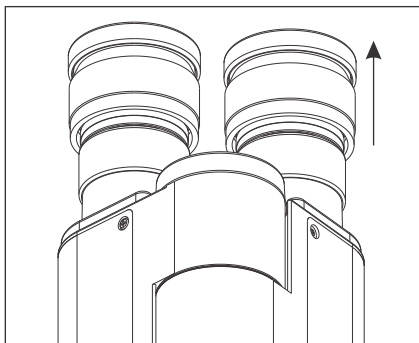

Fig. 3.1
2. Insert desired eyepieces in empty ocular tube.(Fig.3.1)